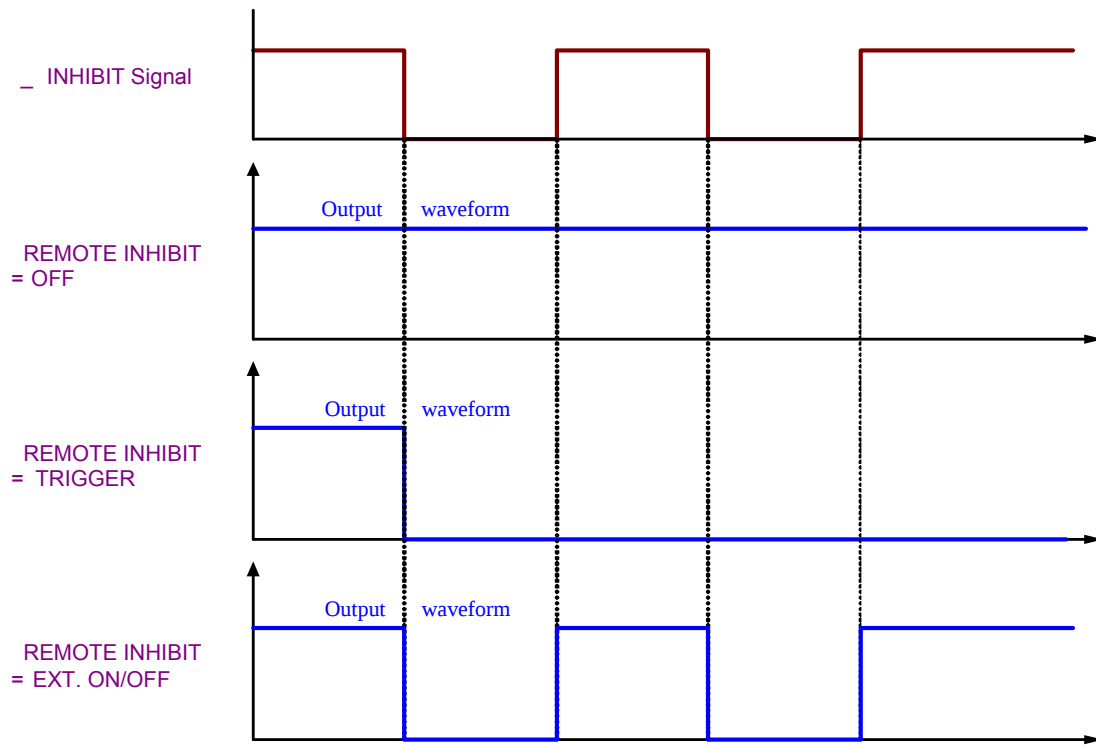

Figure A-1 Detail Actions of PIN9
- (1) PIN 1: 12V auxiliary power; see section 3.3.1.3.
- (2) PIN 2: Ground of 12V auxiliary power; see section 3.3.1.3.
- (3) PIN 3: Voltage programming; see section 3.3.1.3.
- (4) PIN 4: Current programming; see section 3.3.1.3.
- (5) PIN 5: Voltage measurement; see section 3.3.1.3.
- (6) PIN 6: Current measurement; see section 3.3.1.3.
- (7) PIN 7: SAFETY INT.LOCK, see section 3.3.5.5.
- (8) PIN 8: External trigger signal of Program mode; see section 4.1.2.2.
- (9) PIN 9: When the voltage level of this pin turns to LOW, it inhibits the output of DC Power Supply. When REMOTE INHIBIT sets to OFF, the pin is invalid and when REMOTE INHIBIT sets to TRIGGER once the low level triggers it, it equals pressing "OUTPUT" key to set OUTPUT = OFF; and when REMOTE INHIBIT sets to EXT. ON/OFF when the voltage level turns to LOW, it equals pressing "OUTPUT" key to set OUTPUT = OFF; however, when the voltage level of this pin turns to HIGH the power supply returns to normal output. Figure A-1 shows the detail actions.
- (10) PIN 10: When the DC power supply output is ON and the voltage is over VDC_R, the pin10 DC_ON of SYSTEM STATUS on the device rear panel will turn to HIGH. When the DC power supply output voltage is lower than VDC_F setting, the pin10 DC_ON of SYSTEM STATUS on the device rear panel will turn to LOW.
- (11) PIN 11: When protection occurs as described in section 3.3.5, this will turn to LOW.
- (12) PIN 12: Bit 0 of TTL signal output; see section 3.3.2.5 for detail setting.
- (13) PIN 13: Bit 1 of TTL signal output; see section 3.3.2.5 for detail setting.
- (14) PIN 14: Bit 2 of TTL signal output; see section 3.3.2.5 for detail setting.
- (15) PIN 15: Bit 3 of TTL signal output; see section 3.3.2.5 for detail setting.
- (16) PIN 16: Bit 4 of TTL signal output; see section 3.3.2.5 for detail setting.
- (17) PIN 17: Bit 5 of TTL signal output; see section 3.3.2.5 for detail setting.
- (18) PIN 18: Bit 6 of TTL signal output; see section 3.3.2.5 for detail setting.
- (19) PIN 19: Bit 7 of TTL signal output; see section 3.3.2.5 for detail setting.